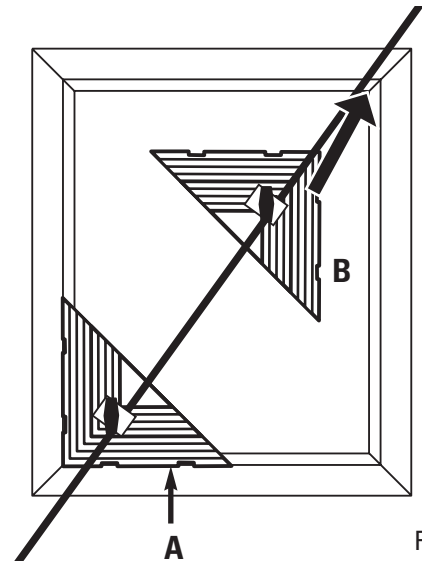

Fig. 3
**Step 1** - Loosen the adjustment knobs on both the alignment triangles and slide triangle A into the lower left hand corner of the frame taking care to make sure the edges of the alignment triangle fit snugly into the corner of the frame. Tighten knob until secure (do not over tighten). (Fig. 3).